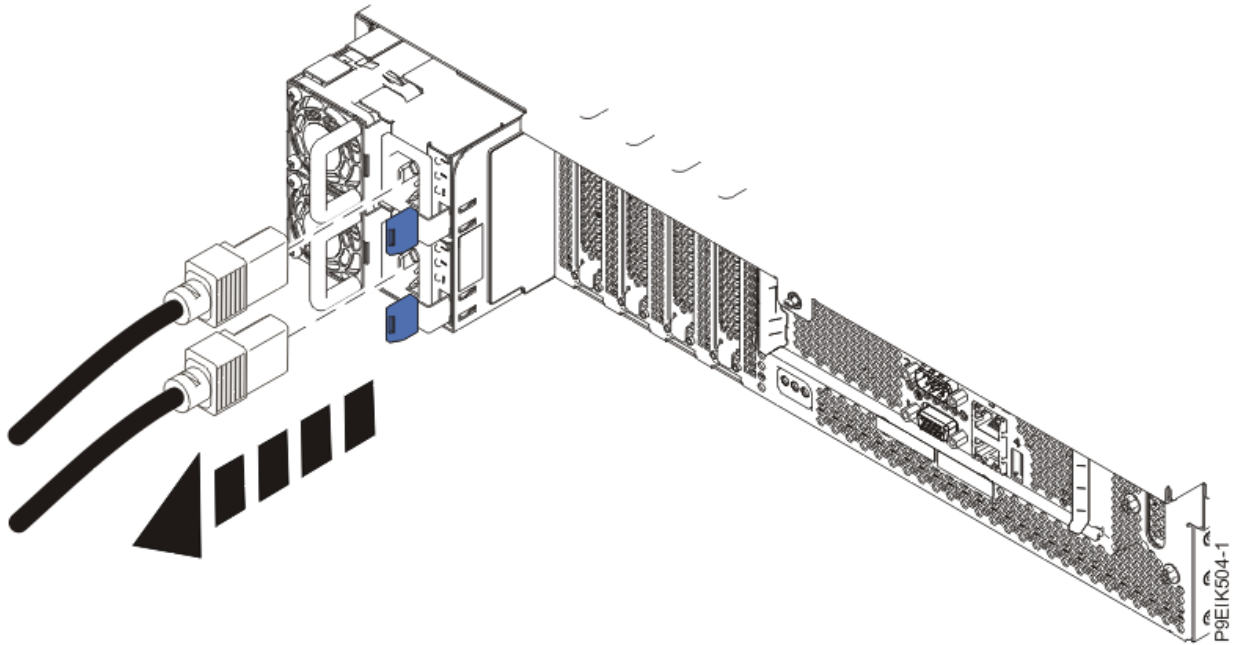

Figure 73. Removing the power cords from the system
4. Disconnect the power cords from the system unit as shown in Figure 73 on page 123.